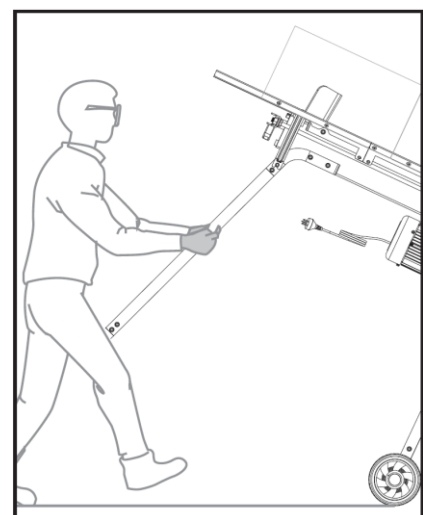

Fig. 13
- To move the log splitter, grasp the support leg (14) to tilt the unit slightly, ensuring that the oil tank cover is securely tightened. Refer to Fig. 13.